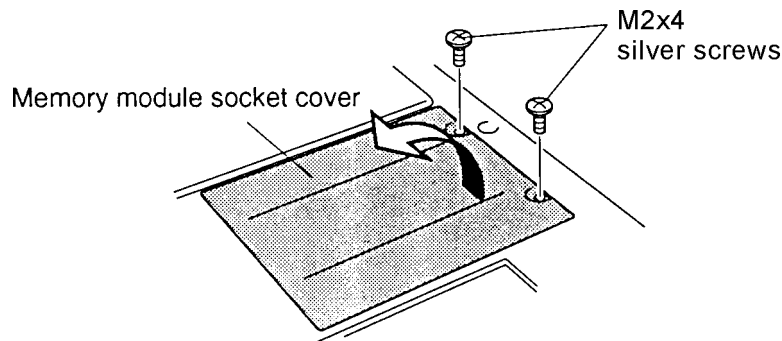

Figure 4-6 Removing the memory module socket cover
To remove an optional memory module, make sure the computer is in Boot mode then follow the steps below and refer to Figures 4-6 and 4-7.
To install an optional memory module, make sure the computer is in Boot mode. Then follow the steps below and refer to Figures 4-6 to 4-8.
4. Lay the cover in place and secure it with **two M2x4 silver screws** (Figure 4-6).